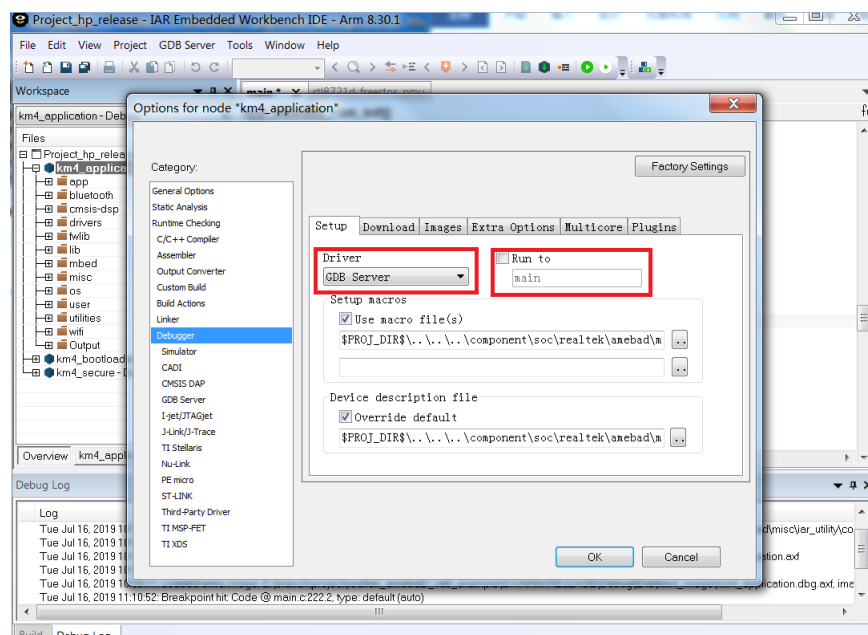

Fig 6-15 RLX Probe setup
- (3) If using RLX Probe, check whether the RLX Probe setting is correct.
- a) Click **Project > Options > Debugger > Setup > Driver**, choose “GDB Server” and don not choose “Run to”, as Fig 6-15 shows.